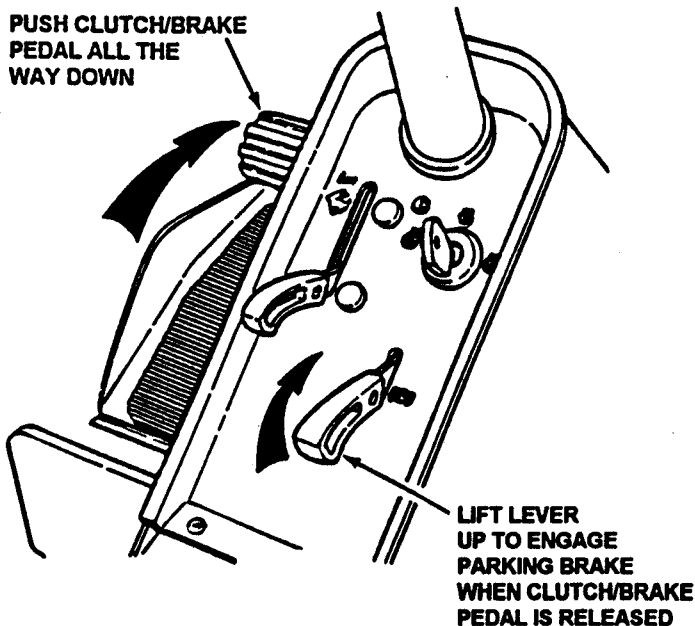

FIGURE 2.8
3. Press Clutch/Brake Pedal all the way down, lift Parking Brake Lever and release the Clutch/Brake Pedal to set Parking Brake. See Figure 2.8.